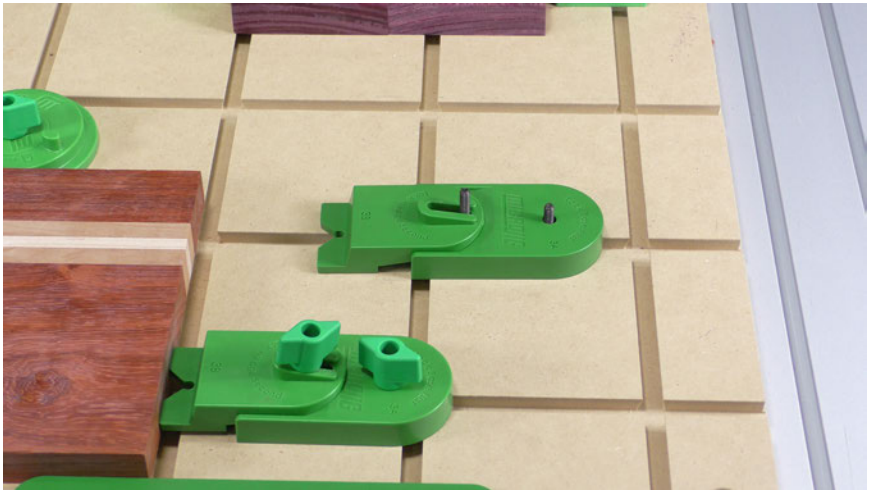

Fig 5b - Ramp Clamp set
- 5.6. The pusher 3B is set onto the base 3A so that the Track Screw in the ramp passes through the slot in the pusher 3B. (Fig 5b)